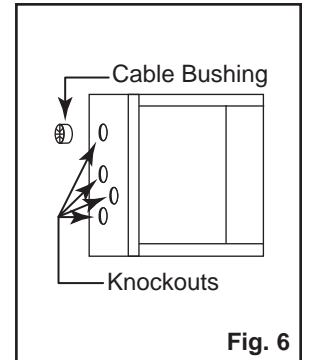

Fig. 6
**HARDWIRE** Remove suitable knockout(s) in box(es) and insert cable bushing(s). See Fig. 6.